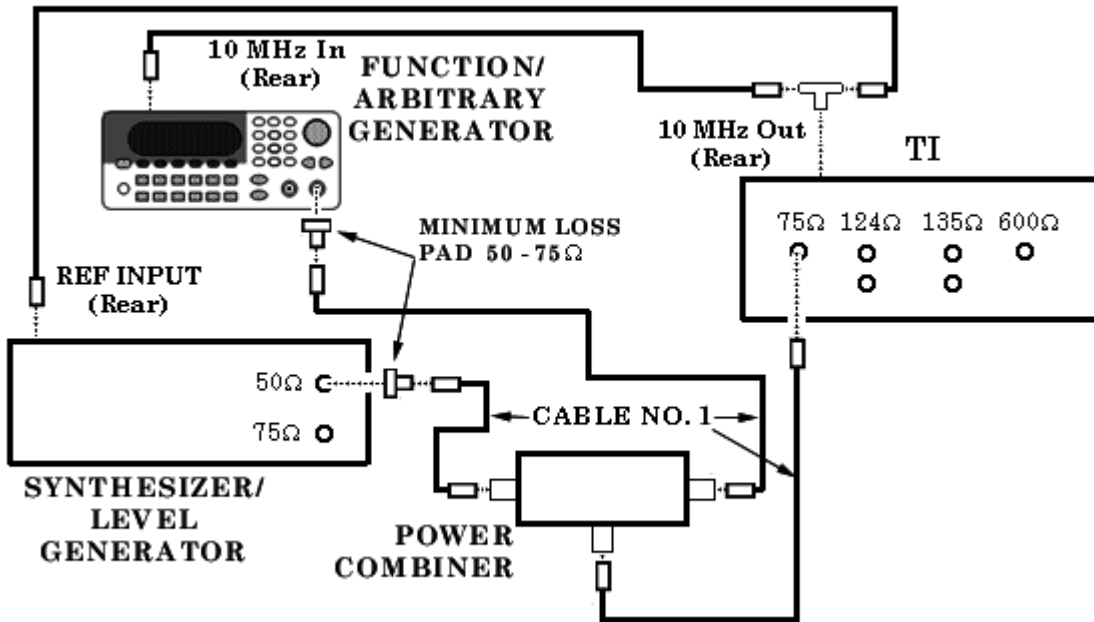

Figure 5. Wideband power accuracy setup.
(1) Connect equipment as shown in figure 5.
(2) Press **TI ENTRY [RECALL], [0], MEASUREMENT MODE [WIDE BAND], MEASUREMENT/ENTRY [AVE],** and **TERMINATION [75 Ω]** pushbuttons.
(3) Set function/arbitrary generator for 20 kHz and amplitude for +8.7 dBm.
(4) Set synthesizer/level generator for 30 kHz and amplitude for +8.7 dBm.
(5) Press **TI ENTRY [RDNG OFFSET]** and **MEASUREMENT/ENTRY [OFFSET]** pushbuttons.
(6) Set synthesizer/level generator to 10 MHz. TI will indicate between ± 0.8 dBmO.
(7) Set function/arbitrary generator for 200 Hz and synthesizer/level generator for 1 kHz. Press **TI [RDNG OFFSET]** pushbutton.
(8) Set synthesizer/level generator to 32 MHz. TI will indicate between ± 1.8 dBmO.
- (1) Connect equipment as shown in figure 5.
- (2) Set TI ENTRY [RECALL], [0].
- (3) Set function/arbitrary generator frequency for 11004 Hz and amplitude for -56 dBm.
- (4) Set synthesizer/level generator frequency for 11104 Hz and set amplitude level to -76 dBm.
- (5) Press TI MEASUREMENT ENTRY RANGE [100 dB], and ENTRY, [FREQ], [1], [0], and [kHz +dB] pushbuttons.
- (6) Press TI MEASUREMENT MODE (blue) and [0 JITTER] pushbuttons. TI phase jitter will be from 10 to 13 degrees p-p.
- (7) Disconnect function/arbitrary generator and combiner power from setup.
- (8) Connect synthesizer/level generator 75 Ω OUTPUT to TERMINATION 75 Ω input of TI.
- (9) Press TI ENTRY [RECALL], [0], and TERMINATION [75 Ω] pushbuttons.